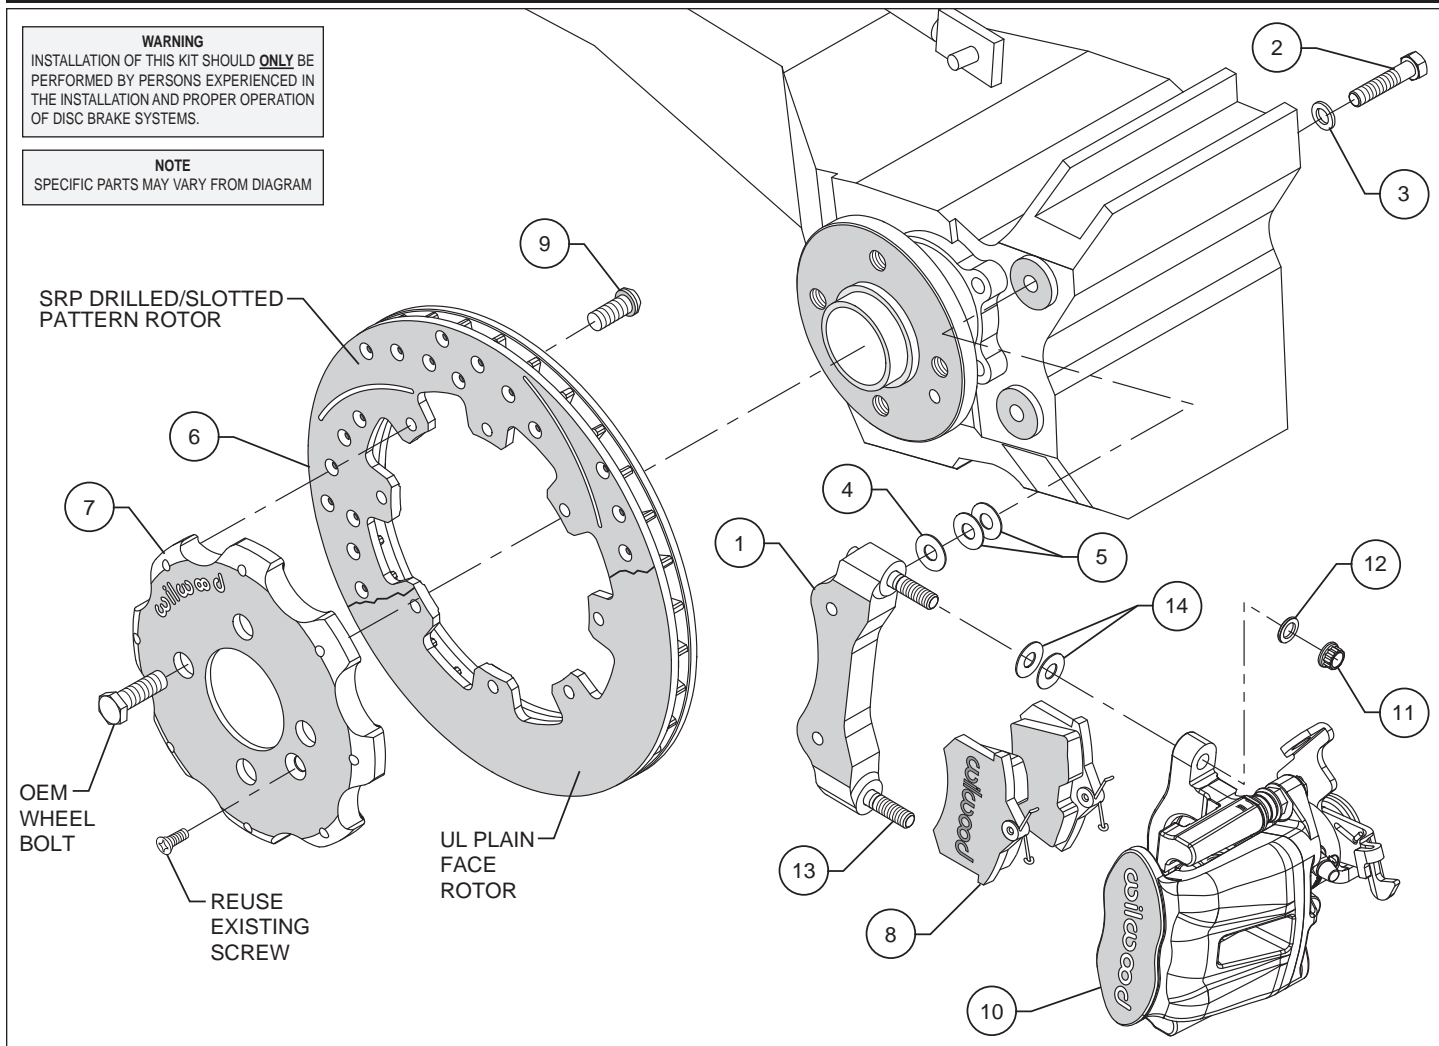

Figure 1. Typical Installation Configuration
- The caliper mounting bracket (1) should be installed first with clean, dry threads on the mounting bolts. Install the bracket (1) on the outboard side of the hub assembly by sliding bolt (2) from the inboard side of the arm assembly through washer (3) through the existing OEM caliper mounting holes and thread into caliper mounting bracket (1). Place two shim washer (5) between the bracket (1) and the caliper mounting tabs (see figure 1). The mounting bracket (1) must tighten squarely against the outboard side of the arm assembly face. Inspect for interference from casting irregularities, machining ridges, burrs, etc.
- With the larger I.D. side of the rotor (6) facing away from the hat (7), attach rotor (6) to hat (7) using bolts (9) as shown in Figure 1. Using an alternating sequence, remove bolts one at a time, apply red *Loctite*® 271 to the threads, and torque to 25 ft-lb.
- Slide the brake pads (8) up into the caliper (10) from the bottom compressing the "v" spring clip until the pad snaps into place against the caliper bracket, pads should install easily without interference.
- Lubricate caliper mounting studs and nuts with lightweight oil. Install two shims (14) over each stud (13) on the radial mount bracket (1). Slide the caliper (10) in place over the studs and rotor and install the washer (12) and lock nut (11) to hold the caliper in place. The caliper bleed screw should be pointing toward the rear of the vehicle. Snug the lock nuts (11) and check that the caliper (10) is centered over the rotor (6). Add or subtract .016" shims (4) and/or .035" shims (5) as necessary between the caliper mounting bracket (1) and the spindle face to center the caliper (10) on the rotor (6).
- Check that the outside radius of the brake pad (8) is flush with the outside diameter of the rotor face. Add or subtract shims (14) between the caliper (10) and the caliper mounting bracket (1) to gain the proper alignment.
- Check that the caliper is centered side to side on the rotor. Add or subtract shims, (4) and/or (5) between caliper bracket (1) and arm to properly position the caliper.
- Once all clearances have been checked, remove the wheel, caliper and rotor from the axle flange. Secure the caliper mounting bracket (1) to the hub assembly mounting holes while applying red *Loctite*® 271 to the bolt threads (2). Torque bolts (2) to 35 ft-lbs. Reinstall the rotor and again use several wheel bolts to hold it in place. Reinstall the caliper, torque the caliper nuts (11) to 30 ft-lbs.